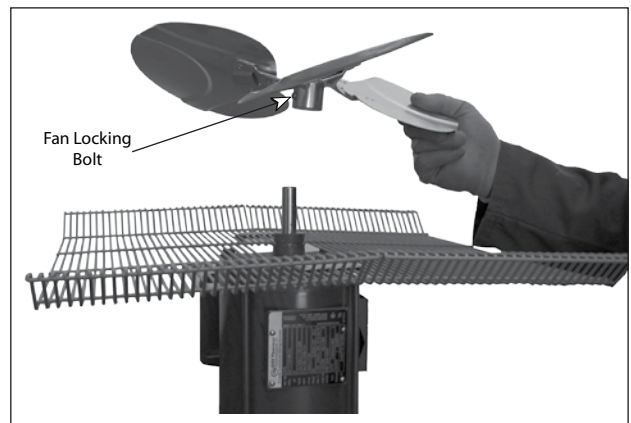

**FIGURE 9**
1. Remove the (8) screws and washers that are holding the fan grills to the shroud (see Figure 9).
9. Air must exit through dampers and fan must rotate counterclockwise when viewing from the rear of the fan (see Figure 9).